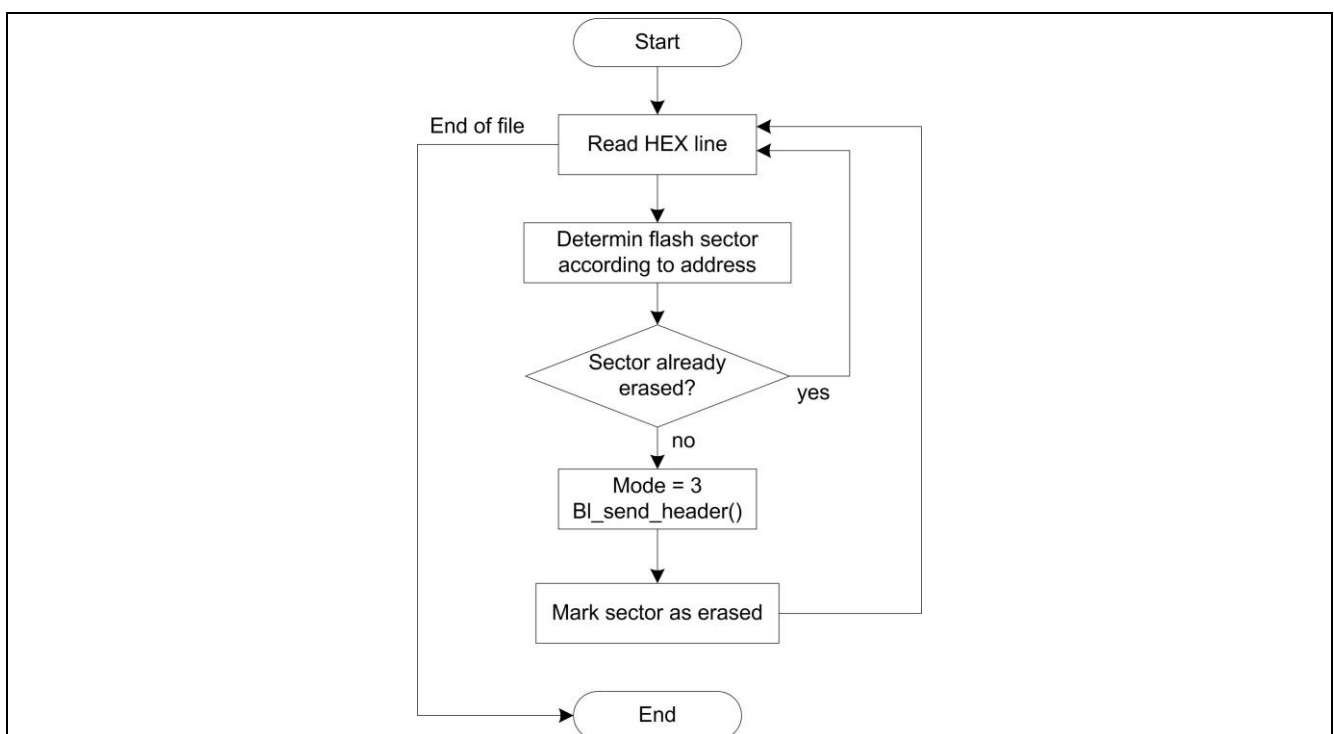

Figure 4 Flash erase procedure implemented in `bl_erase_flash()`
- The Flash erase procedure, as shown in Figure 4 is implemented in the function `bl_erase_flash()`.